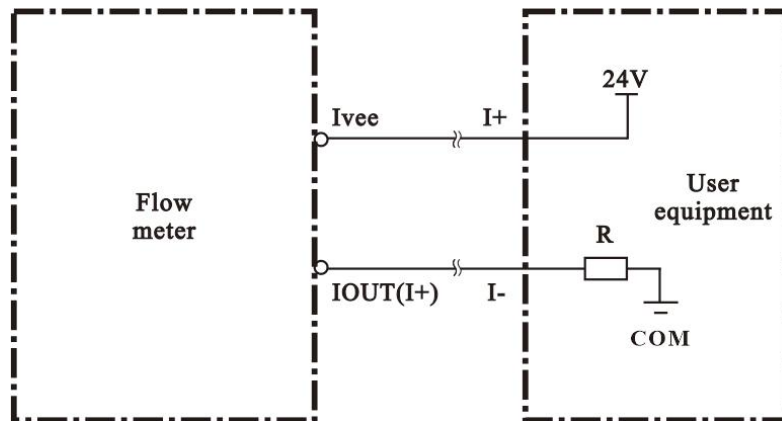

Figure 13
7.6.2 Output mode 2: Two-line system of passive current output (Figure 13)